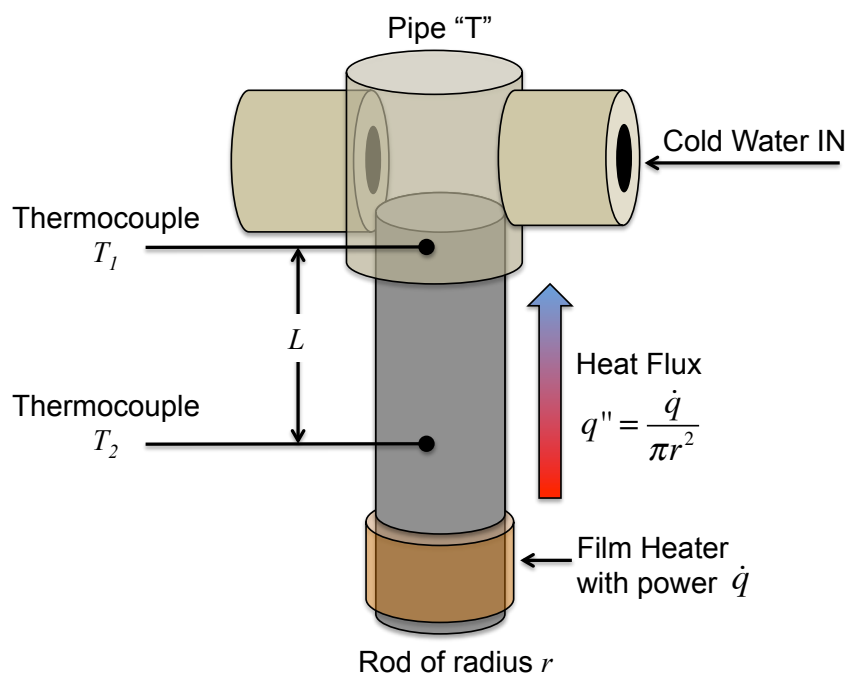

Figure 3 – A schematic of the experimental apparatus used for measuring thermal conductivity of a metallic rod.
Shown in Figure 3 is a schematic of the experimental apparatus you will use in this experiment. It consists of a uniform cylindrical rod with an electric heater on one end and cooling water on the other. The entire rod will be wrapped in pipe insulation. For an insulated, uniform rod with a constant cross section under steady state conditions, Equation (2) can be written as